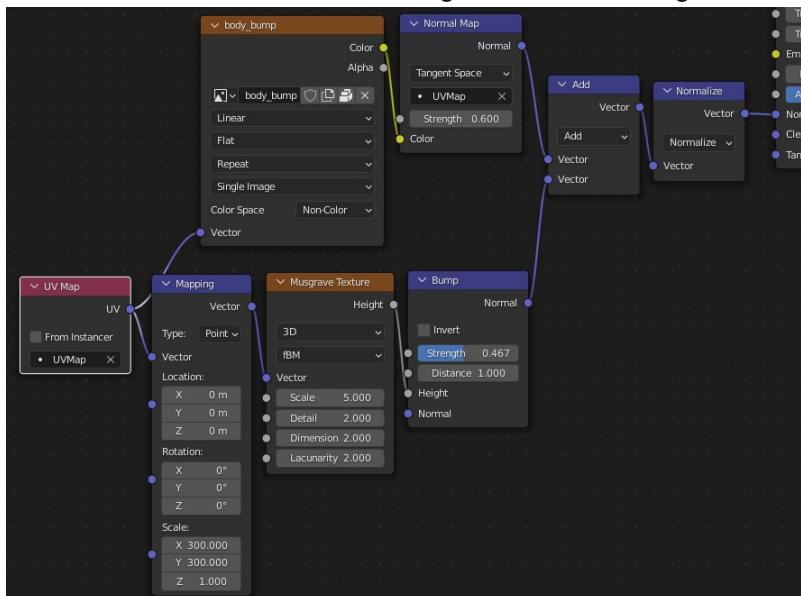

Figure 9-2 Nodes Combining Normal Map and Bump
2. To combine the two normals you use vector addition. Reduce the Strength of the normal map node to **0.6** as well then use **Add ▾ Convert ▾ Vector Math** to add a node to combine the two normals. However this result then needs to be normalized by another Vector Math node with the operation set to **Normalize**. The node arrangement is shown in Figure 9-2.
The render on the left of Figure 9-3 shows a material with the normal disconnected, but with a multiresolution modifier still in place, set to level 1. The middle render has the normal image texture baked from sculpted multiresolution level 3. The right hand render has both the image and the noise texture pores using the shader shown in Figure 9-2.